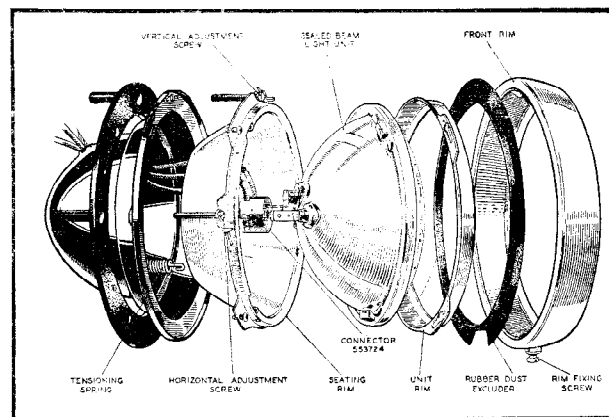

Fig. 13
- Disconnect the existing bulbholder and cables and fit the three-slot connector and cable assembly 553724 shown in Fig. 13.